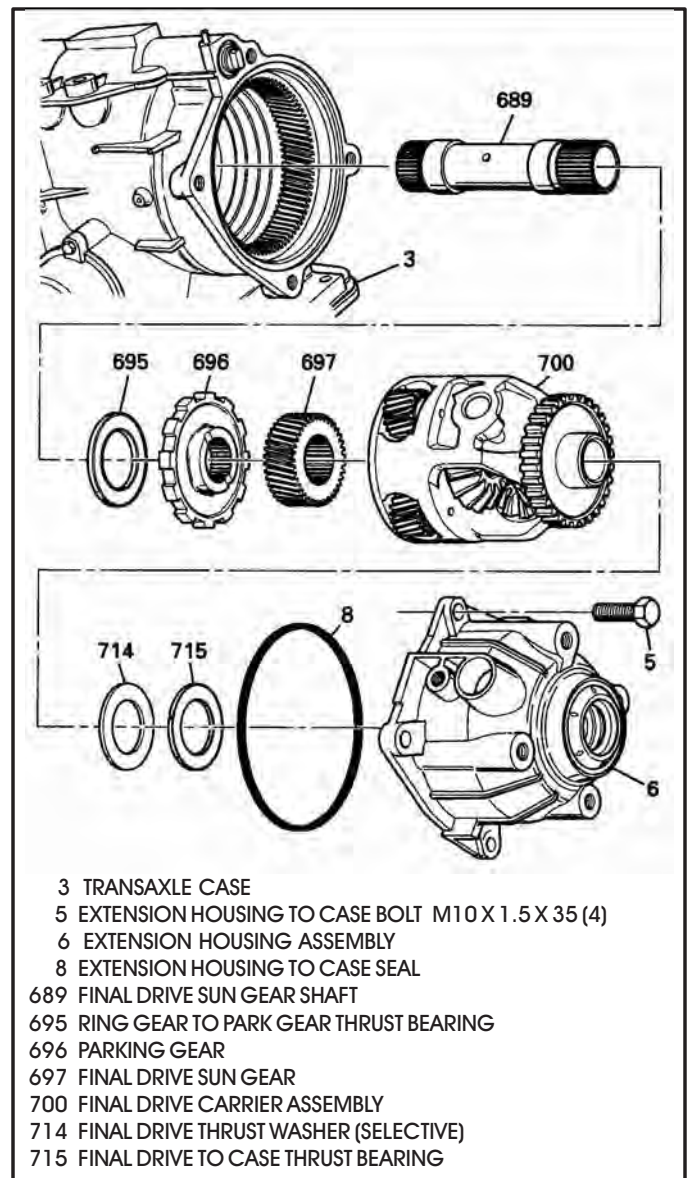

Figure 56
28. Remove the final drive carrier assembly, as shown in Figure 56, and set aside for the component rebuild section.
29. Remove the parking gear and final drive sun gear shaft, as shown in Figure 56.